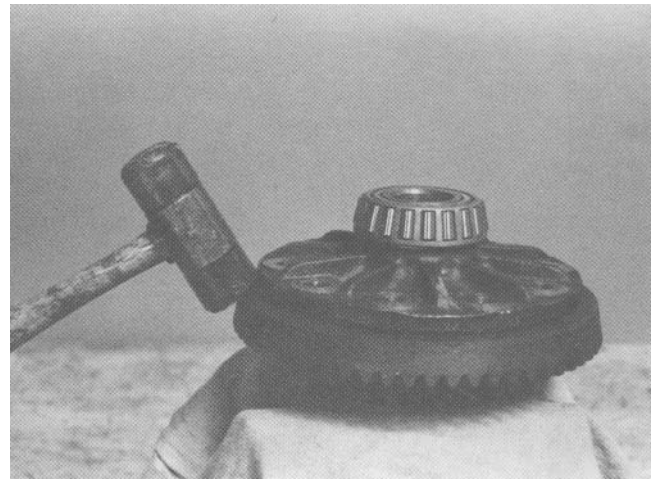

Figure 26
5. Remove the ring gear cap screws. Using a hard wooden block and a hammer, drive the ring gear off of the differential case. Be prepared to protect the ring gear when removing it from the differential case; this will avoid damage of the ring gear teeth (Fig. 26).